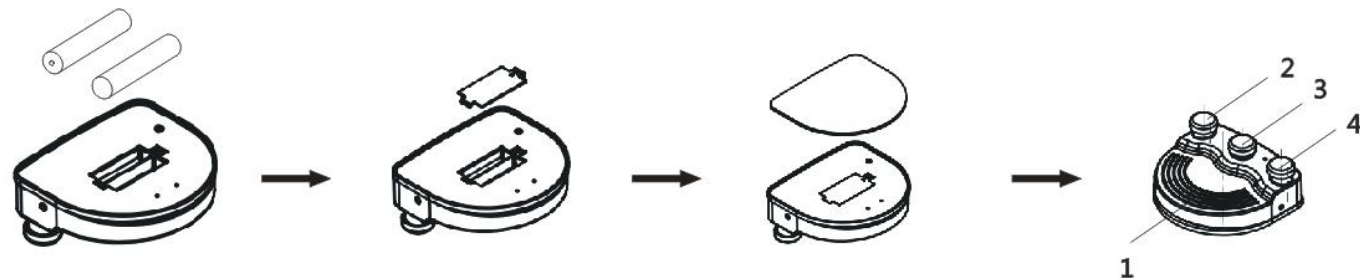
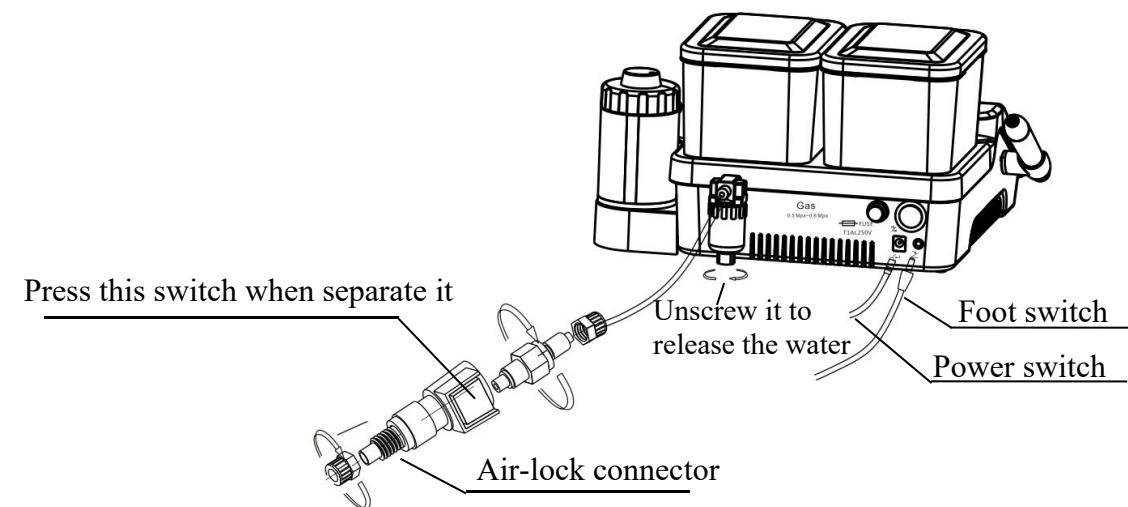

Figure 6
Figure 7
- (1) Take the main unit out of the box and put it on a stable plane.
- (2) Install batteries into wireless foot switch, or insert the plug of the wired foot switch into the socket of main unit.(See Fig. 6,7)
- (3) Liquid circuit installation: Fill up appropriate amount of purified water into the water bottle,and then insert the water bottle to the main unit.
- (4) Air circuit installation: Connect external air source to the air supply intake.(See Fig.7)
- (5) Fasten the tip to the handpiece with wrench, and then correctly connect the handpiece to the handpiece socket. Before install the handpiece, dry the handpiece connection and socket thoroughly.
- (6) Make sure that the power switch on the main unit is off. Insert the output plug of the power adapter to the main unit, and then insert the input plug of the power adapter to the electric supply.
- (7) Turn on the power switch of the main unit, and then LCD screen lights up. The left bottle is used by default.
- (8) The frequency during the normal working state is extremely high. Ensure that the tip is in normal working state, only light touch and reciprocate at a certain speed to clean tartar. There is no obvious heating at the tip and please avoid excessive local force or stay too long when cleaning teeth.
- (9) Vibration intensity: Adjust the vibration intensity as required, generally to a medium vibration intensity, or adjust the vibration intensity at any time during the clinical process according to the patient's sensitivity and the hardness of the calculus.
- (10) Water flow rate adjustment: Step on the foot switch, and the tip begins to vibrate, and then adjust the water flow rate to form spray to cool down the handpiece and clean the teeth.
(11) After finishing operation, keep the device working for 30 seconds on the water supply condition in order to clean the handpiece and tip. Please sterilize them according to the sterilize requirements of the Article 4.1 for detail.